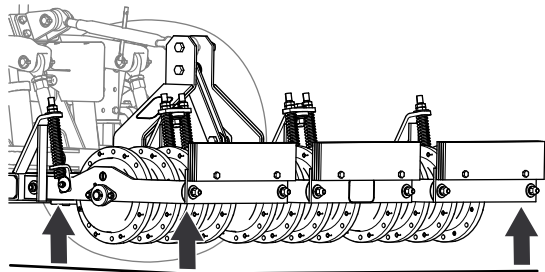

Figure 19
7. Adjust the links of the 3-point hitch to level the aerator left to right and front to back (Figure 19); refer to the operator's manual for your traction unit.